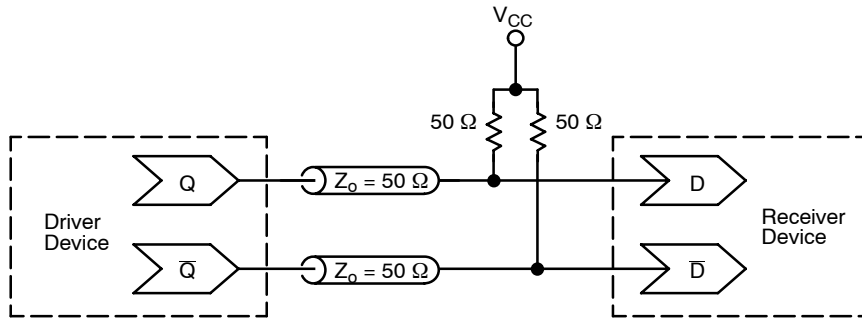

Figure 9. Typical Termination for Output Driver and Device Evaluation
4. CML outputs require $R_L = 50\ \Omega$ receiver termination resistors to V_{CC} for proper operation. (See Figure 9)
RSECL, PECL, NECL	Standard ECL Termination Techniques (See Figure 9)